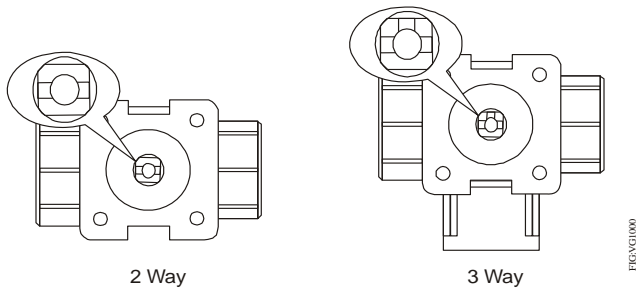

Figure 8: Positioning the Valve Stem
1. Turn the valve stem to the position outlined in Figure 8.